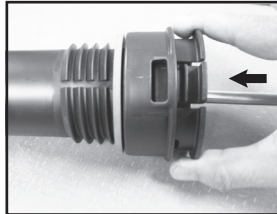

Figure 5
5. Insert the pump handle assembly into the barrel. Align the tabs of the pump cap with the rectangle cutouts on the barrel. Push cap into place until the cap snaps securely into position. **(See Figure 5)**